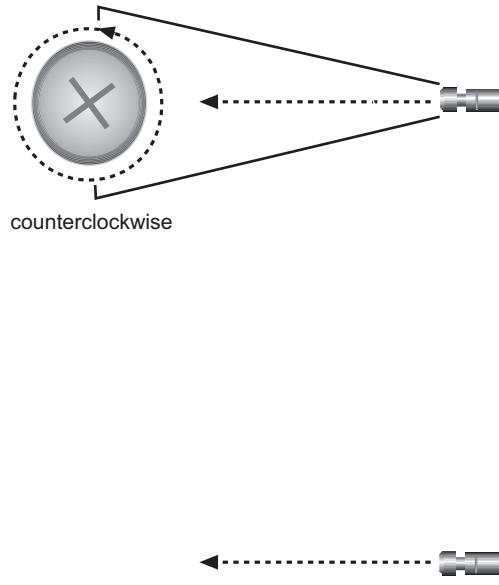

Figure 3-5 Removing the blank faceplate
- 2 With a Phillips screwdriver, loosen the top and bottom captive screws securing the blank faceplate covering the empty slot. See Figure 3-5.
- 3 With a Phillips screwdriver, loosen the top and bottom screws that secure the blank faceplate covering the empty chassis slot, as shown in Figure 3-5.
- 3 Use a screwdriver to loosen the thumb screws located at the top and bottom of the module panel, as shown in Figure 3-5.